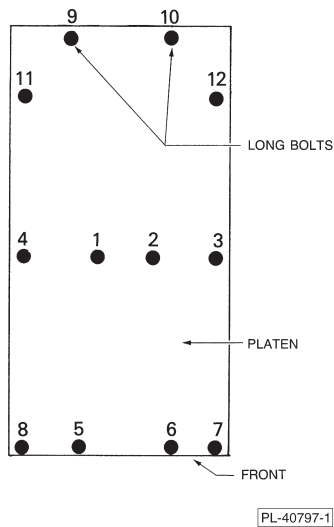

Fig. 7
- Tighten all bolts and nuts firmly (do not overtighten), with $\frac{7}{16}$ wrench, in numerical order as shown in the diagram (Fig. 7). **CAUTION: Overtightening can deform the aluminum material of the platen.**